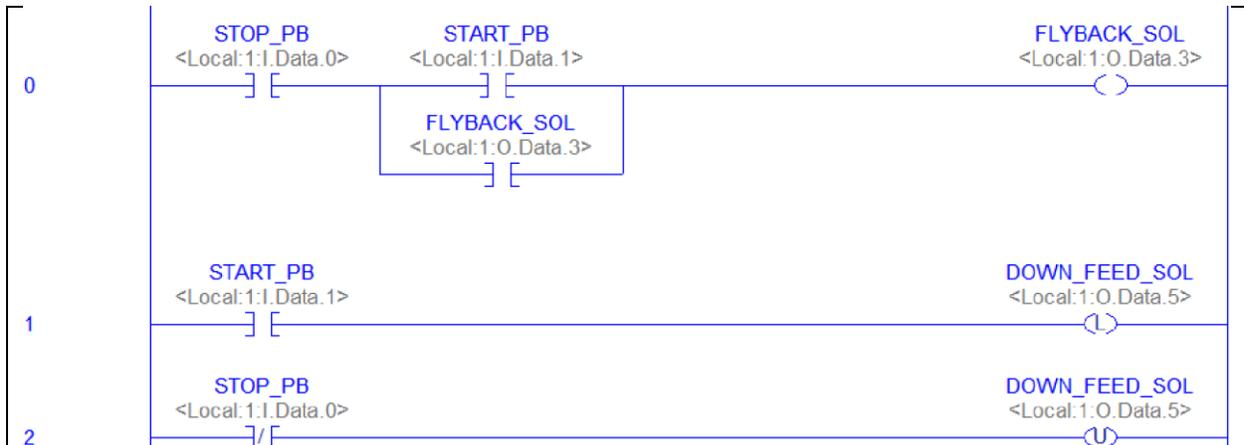

Figure 1. L5000 program using relay instructions.
7. Figure 1 shows the program that will be used in this lab. View the video above to learn how to create a new project in Studio 5000 Logix Designer.
8. Verify the driver in RSLinx to the CompactLogix processor, create the new project, enter the program as shown in Figure 1 in the MainRoutine. The user will have to create the Alias tags either when entering the ladder logic, or in the Controller Tags tab. The Alias and Base tags are shown in Figure 2.